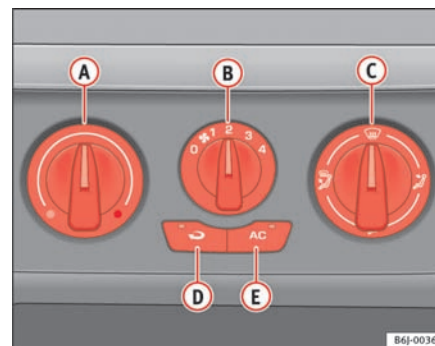

Fig. 88 On the instrument panel: air conditioning controls
- Disconnect the cooling system using button ⇒ fig. 88  (the button light turns off).
When air recirculation mode is switched on (button  ⇒ page 123, fig. 88  with warning lamp) strong odours in the outside air do not enter the vehicle interior, for example when passing through a tunnel or in a traffic jam.